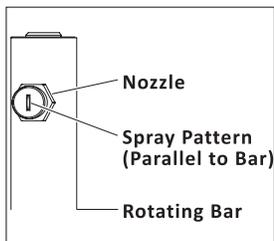

Figure 1
2. Nozzles should be screwed into the rotating bar. The spray fan should be parallel to the Rotating Bar. (See figure 1.)